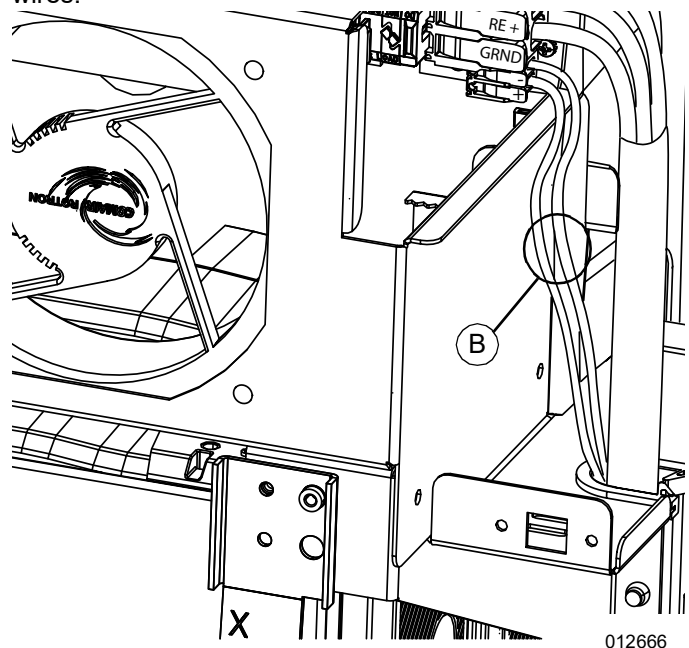

Figure 4-13. Connect To Remote Shutdown Switch
See **Figure 4-13**. Connect the wiring (B) to the external shutdown switch (field supplied) to battery STOP terminals. The STOP Terminals accept 20 to 12 AWG, solid or stranded wire. As shown, 14 AWG THWN (600 V) wiring can be used and run in the same conduit as the REbus wires.